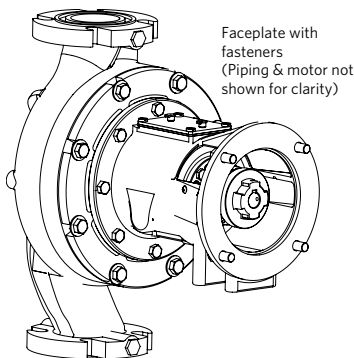

FIG 7A. SBA 6 series with Face plate
- 12 Follow the remaining steps as applicable from #1 thru #11 to change 6 series SBA (FIG 7A).